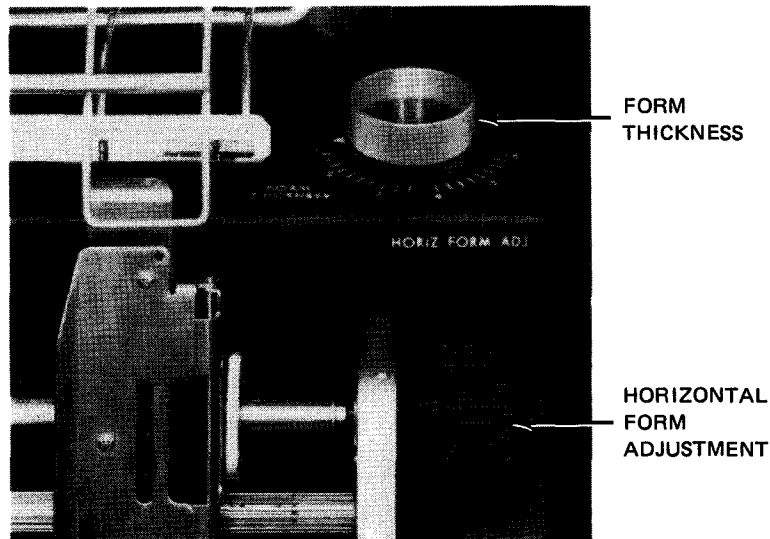

Figure 5-58. FORM THICKNESS and HORIZONTAL FORM ADJUSTMENT Controls
25. If further minor adjustment is required, adjust **LINE PHASING** control (Figure 5-56) for up-down character placement or **HORIZ FORM ADJ** control (Figure 5-58) for side-to-side placement. (Turn **HORIZ FORM ADJ** control clockwise to move printed characters to left; counterclockwise to move characters to right.)